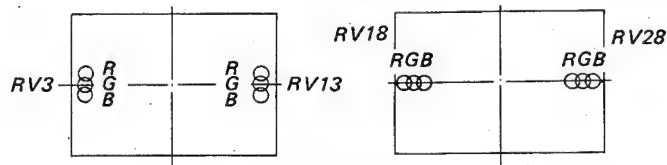

Fig. 1-13.
4. Adjust RV3, RV13 and RV18, RV28 on the DB board to coincide with the R, G and B dots as shown in Fig. 1-13.